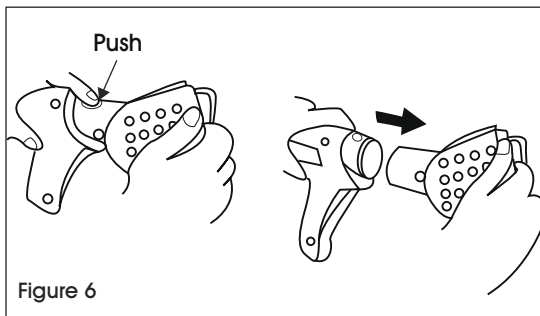

Figure 6
1. Depress button and remove combustor assembly. (See Figure 6)